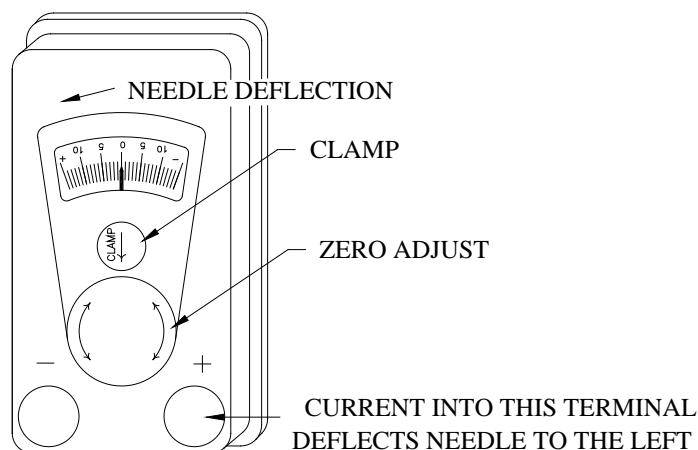
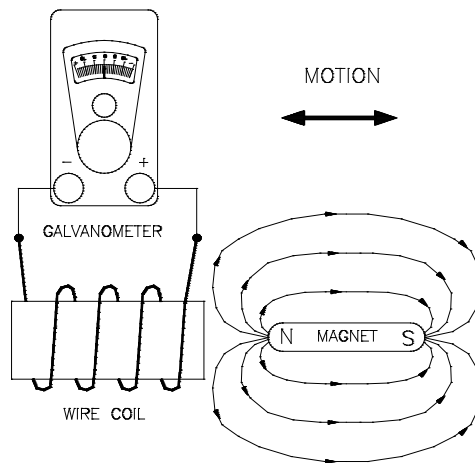

Figure 3 Diagram of the galvanometer used in today's experiment.
Figure 4 Diagram showing apparatus necessary to observe current induced by a moving permanent magnet.
Figure 3 is a drawing of the galvanometer you will use in today's lab. Galvanometers are delicate and expensive, so please handle them carefully. The galvanometer is a very sensitive ammeter. One division on the scale is approximately one microampere, $1\mu\text{A}$. Before you move a galvanometer, you must CLAMP the needle movement by pushing the clamp button in the direction of the arrow shown on the meter. Conversely, before you can use the galvanometer to measure current, you must UNCLAMP the meter movement by pushing the button in the other direction. For the meter's safety, PLEASE CLAMP the meter movement when you are not using it. The "Zero Adjust" knob is used to set the needle to zero when the meter movement is unclamped and no current is flowing through the galvanometer. As shown in Figure 4, the galvanometers are built so that the needle deflects to the left when current is flowing into the right terminal. Full-scale deflection for these meters is about 10mA and the internal resistance is a fraction of an Ohm. You should take this into account before connecting the galvanometer to any voltage source other than that outlined in this procedure.
6) Assemble the circuit shown in Figure 4 using the 20-turn coil. Unclamp the meter movement and zero the meter if necessary. Take the magnet and push one end of it into the center of the coil and watch the direction the needle on the galvanometer moves. Leave the magnet sitting in the coil and watch the needle go to zero. Now pull the magnet out of the coil and notice that the needle deflects the other way. You need only to observe these phenomena; no sketches are necessary.
10) Assembled the circuit shown in Figure 4 using the 10-turn coil. Move the north pole of the magnet IN and OUT of the coil SLOWLY. Note the magnitude of the galvanometer deflection. Now move the north pole of the magnet in as fast as you can. Let the needle return to zero. Then pull out the magnet as fast as you can. (The pause allows the needle on the meter to relax to zero.) Note the magnitude of the deflection.